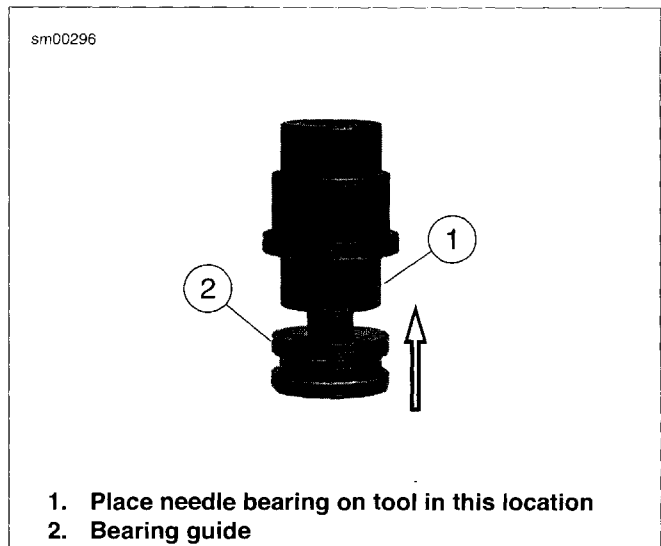

Figure 5-33. Bearing Installer
3. See Figure 5-33. Remove bearing guide from end of CLUTCH SHELL BEARING REMOVER/INSTALLER (Part No. B-45926).